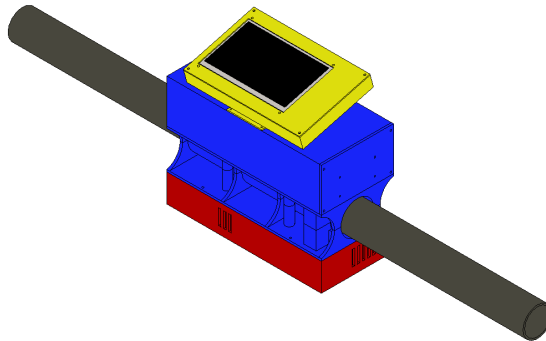

Figure 41: Electronics box fully assembled.
11. Pass a one meter long PVC tube into the *upper and lower PVC adapters*. The fully electronics box is assembled in figure 41.